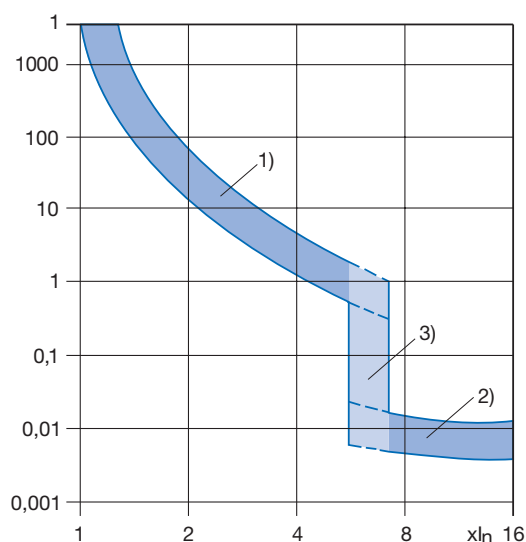

Fig. 8 Tripping zones of thermal magnetic CBEs
Consequently, the operating characteristic is essentially composed of two zones, linked by a zone (3) where either one or the other mode of tripping will be effective (figure 8).